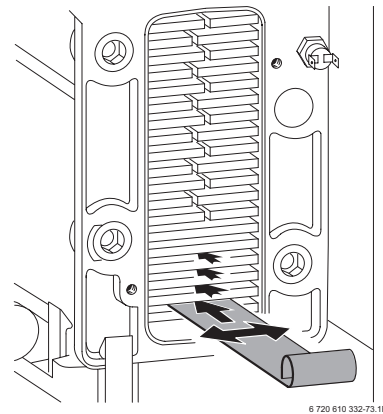

Fig. 53
- Loosen any deposits in the heat exchanger from top to bottom using the cleaning blade. Refer to fig. 53.